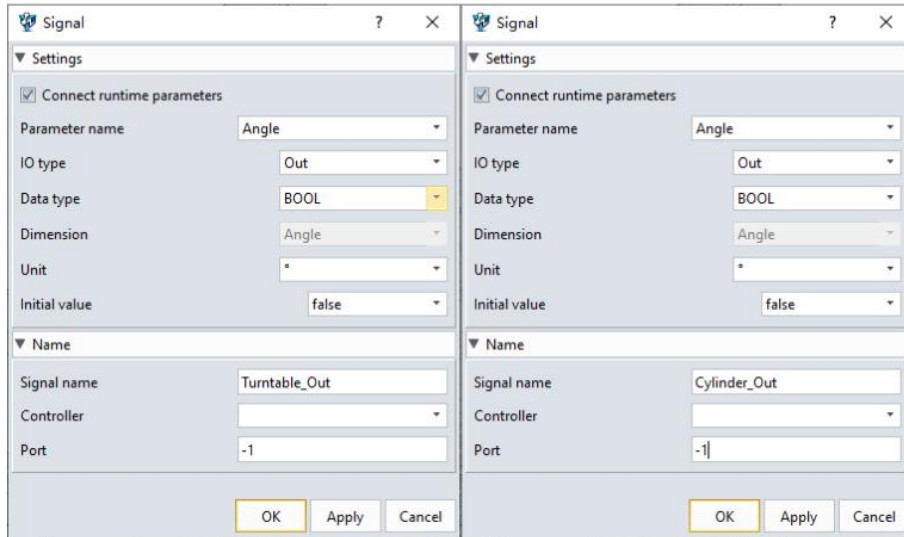

Figure 13-23: Output signal
- Create two output signals: "Turntable_Out" and "Cylinder_Out".(Figure 13-23)
- Specify "Out" as the IO type, assign names, and set port values.(Figure 13-23)